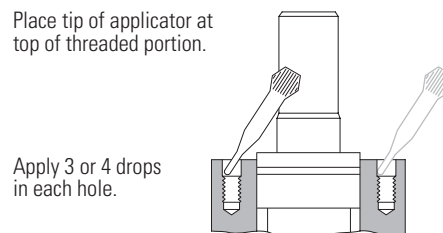

Figure 13
24. Apply 3 or 4 drops of Loctite adhesive (Loctite no. 601 sealant) at top of threads in each of 4 holes in housing, see Fig. 13. Do not allow parts with Loctite applied to surface to contact any metal parts other than their proper assembly. Wipe off excess Loctite from housing face, using a non-petroleum base solvent. Do not apply Loctite to threads more than 15 minutes before installing screws. If housing stands for more than 15 minutes, repeat application. No additional cleaning or removal of previous Loctite is necessary.